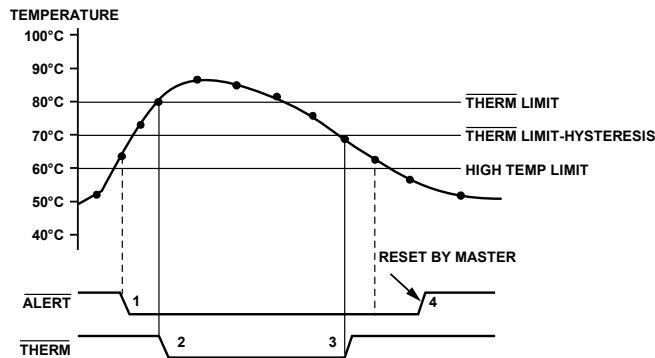

Figure 21. Operation of the  $\overline{\text{ALERT}}$  and  $\overline{\text{THERM}}$  Interrupts
Figure 21 shows how the  $\overline{\text{THERM}}$  and  $\overline{\text{ALERT}}$  outputs operate. If desired, use the  $\overline{\text{ALERT}}$  output as a SMBALERT to signal to the host via the SMBus that the temperature has risen. Use the  $\overline{\text{THERM}}$  output to turn on a fan to cool the system, if the temperature continues to increase. This method ensures that there is a fail-safe mechanism to cool the system, without the need for host intervention.
3. The  $\overline{\text{THERM}}$  output de-asserts (goes high) when the temperature falls to  $\overline{\text{THERM}}$  limit minus hysteresis. In Figure 21, the default hysteresis value of 10°C is shown.